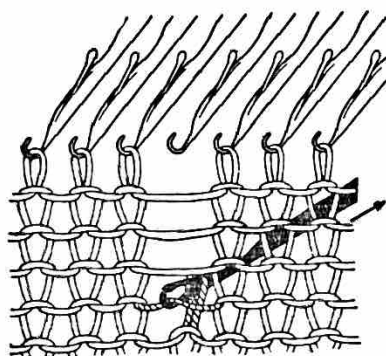

Fig. 35
4. Pull this yarn through the loop on the latch hook (Fig. 35 36) and continue, repeating the same process until the last stitch is knitted.